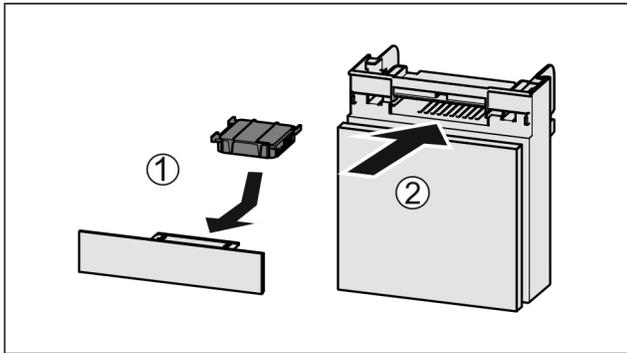

Fig. 44
- ▶ Insert the carbon filter as shown in the diagram Fig. 44 (1).
- ▶ Push the compartment in Fig. 44 (2).